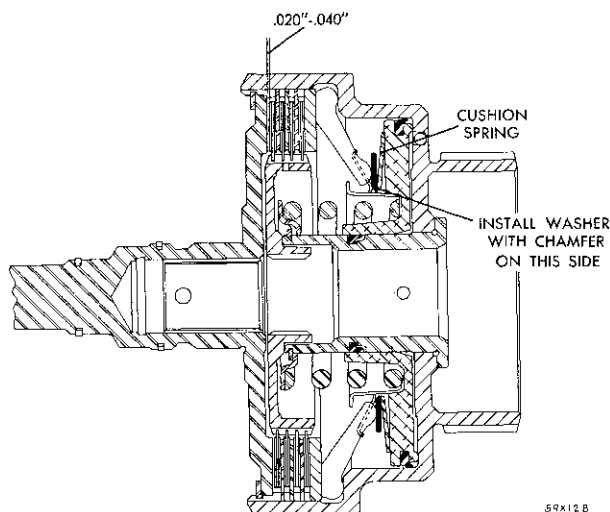

Fig. 74—Cushion Spring Washer Position
(1) Lubricate and install the new rubber seal ring (T) in hub groove of retainer (R) with lip of seal toward rear of retainer.
(2) Lubricate and install the new outer seal ring (S) on piston (Q) with lip of seal toward rear of piston.
(3) Using a twisting motion, seat the piston in the bottom of the retainer.
(4) Place the cushion spring (N) on the piston with cupped (concave) side toward piston.
(5) Place cushion spring washer (M) on cushion spring with chamfer up, toward front on assembly (Fig. 74).